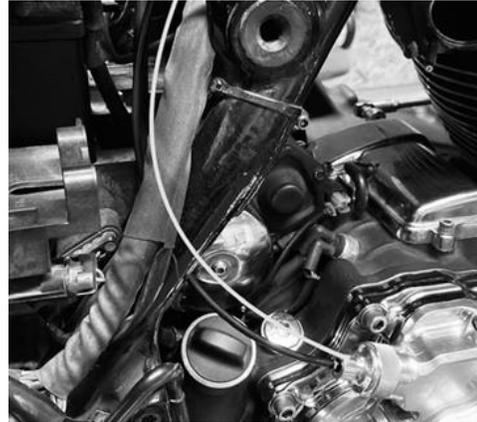

FIGURE 45 | SAFETY CABLE ROUTING
2. From the reverse side cover, route the cable up through the seat/battery tray area of the motorcycle. (Figure 45)